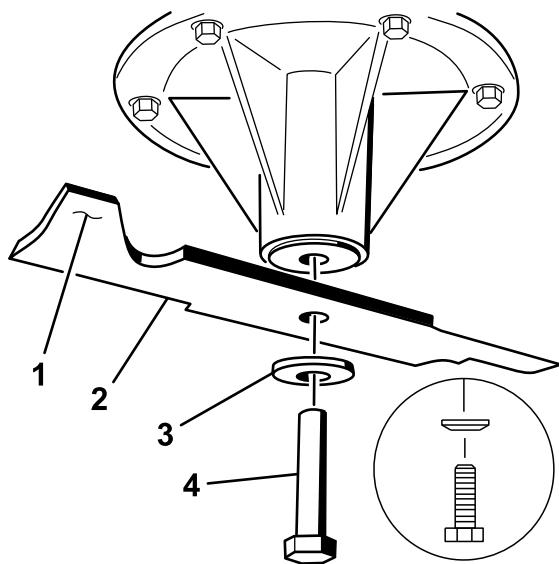

Figure 79
2. Remove the left and center blade bolt, curved washer, and blade from the spindle shaft (Figure 79).
3. Remove the right blade bolt (left threaded bolt), curved washer, and blade from the spindle shaft (Figure 79).
1. Install the left and center blades, curved washers, and blade bolts to the spindle shafts (Figure 79 and Figure 80).
**Note:** Install the curved-washer cone towards the bolt head (Figure 79).
2. Install the right blade, curved washer, and blade bolt (left-threaded bolt) to the spindle shaft (Figure 79 and Figure 80).